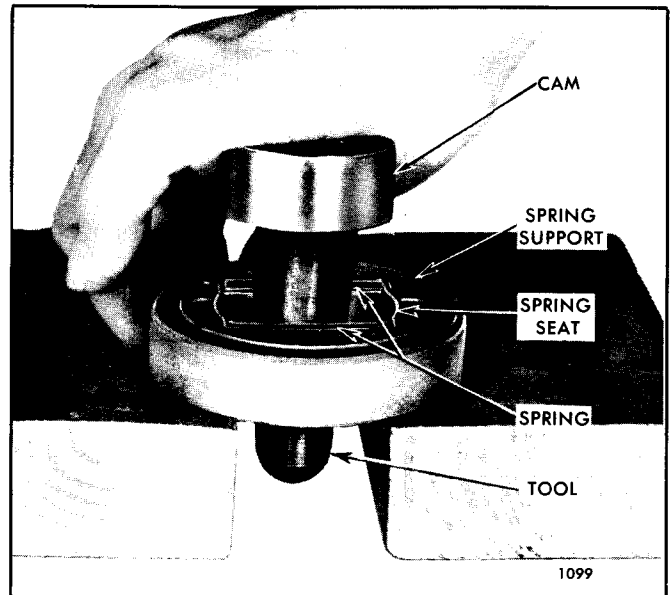

Fig. 20 - Inserting Cam in Blower Drive Support with Tool J 5209
- a. Place the drive spring support on two blocks of wood (Fig. 20).